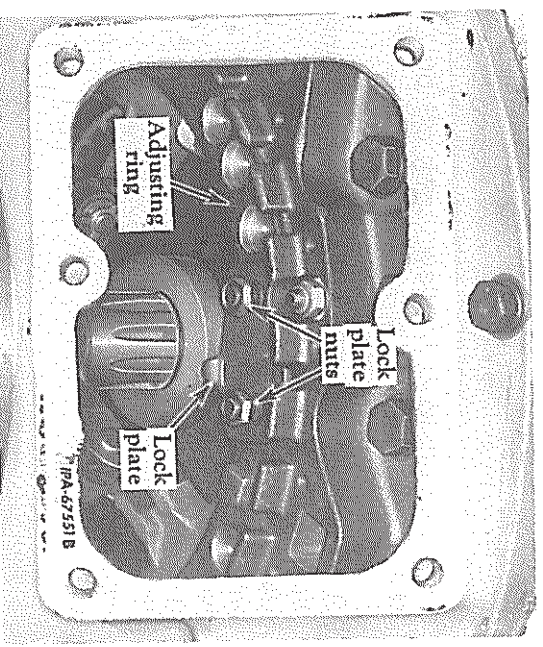

FIG. 30 — Engine Clutch Adjustment
3. Slowly crank the engine (by depressing the starter button intermittently until the clutch adjusting ring lock plate is accessible through the clutch inspection cover opening (Fig. 30).
5. Loosen the lock plate nuts and disengage the lock plate from the lugs on the clutch back plate (Fig. 30).